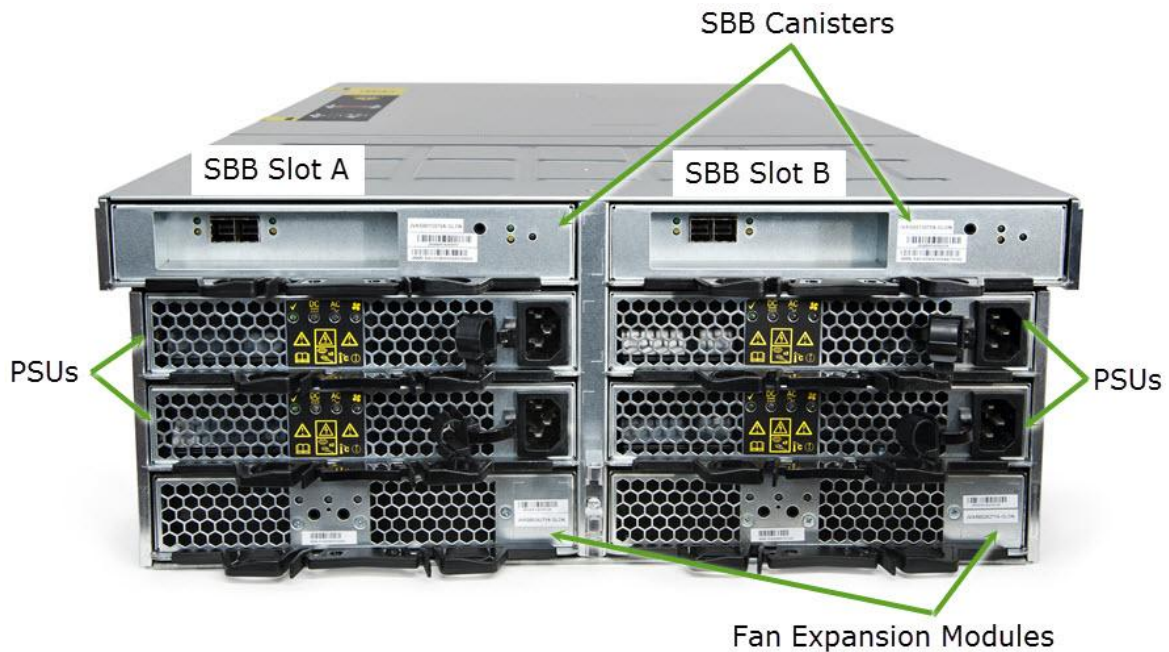

Figure 3. **IceBreaker 4960J Rear View**
IceBreaker 4960J is a rack-mountable, four-unit (4U) High Density Storage System (HDSS) that contains sixty (60) 3.5" hard drive slots. The 4960J Bezel is depicted in Figure 1 and Figure 2. The rear view is shown in Figure 3.
As depicted in Figure 3, IceBreaker 4960J 4U has slots for the following: